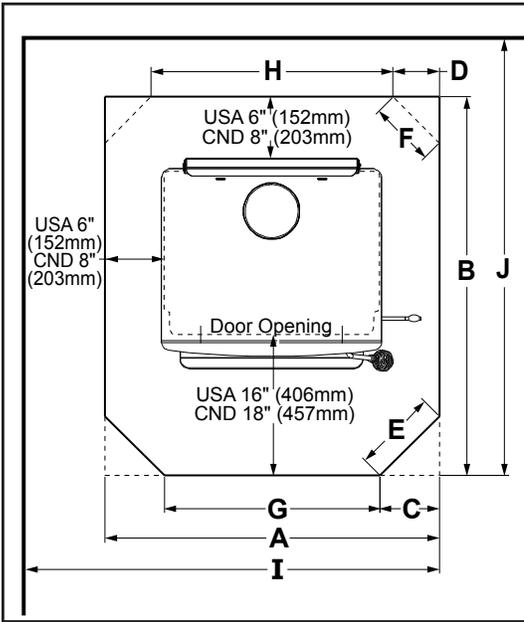

Figure 22: General Parallel Installation (refer to Tables 11 & 12).
**Table 11: Examples of Hearth Pad Sizing Using Clearances From Tables 9 &10 (refer to Figures 22 & 23).**
**Table 12: Examples of Parallel Installation Using Clearances From Tables 9 &10 (refer to Figure 22).**